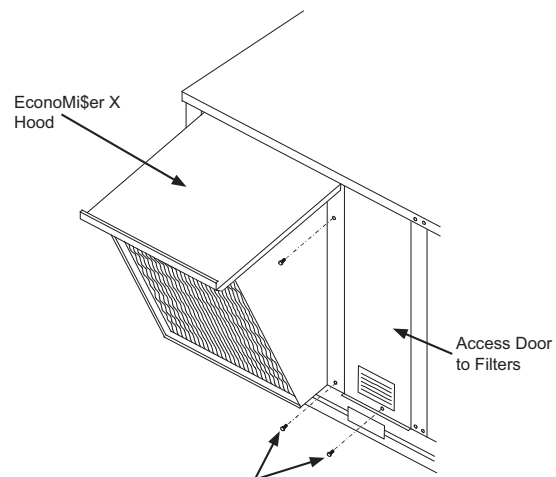

Fig. 21 - EconoMi\$er X Hood Installation
16. Install the EconoMi\$er X hood over the EconoMi\$er X. Use screws provided (See Fig. 21 and 22). Insert screw through right side flange of hood into EconoMi\$er X flange.
24. Install access door next to hood. Screw bottom of door to HVAC unit (See Fig. 21). Use standard serrated screws along bottom of panel for all units.
26. Install the hood filter by opening the filter clips, which are located underneath the hood top. Insert the aluminum filter into the bottom filter rack (hood divider). Push the filter into position past the open filter clips. Close the filter clips to lock the filter into place (See Fig. 21 and 22).